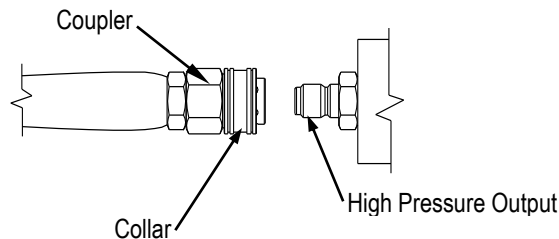

Figure 2b
- 3) Release the collar, making sure it springs back and re-seats to its original (non-retracted) position. (Figure 2b). Check the connection by pulling on the hose to ensure a positive connection.